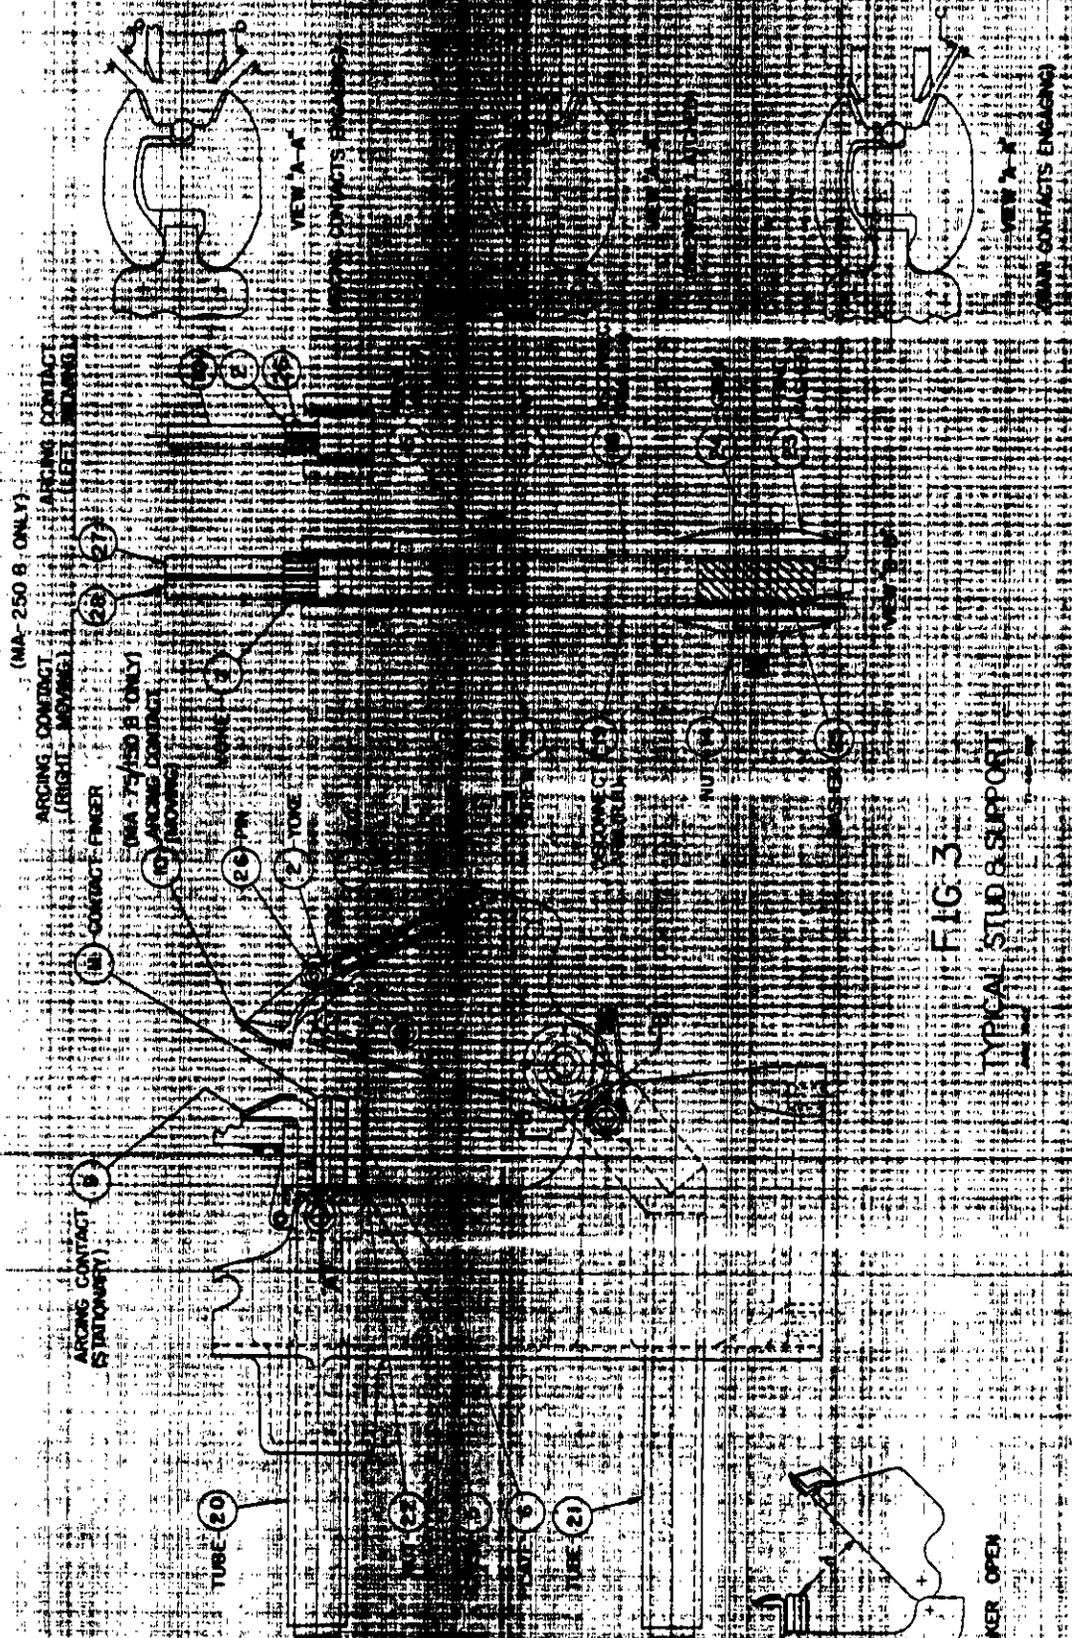

FIG. 3
4.13 CONTACT ALIGNMENT (Fig. 3)
On MA-75/150B Breakers: - If necessary, detach screw pin (1-46) and detach link (1-47) from disconnect arms (3-18) and (3-19). Detach arcing contact (3-10) from yoke (3-2) by removing pin (3-26). Move the disconnect toward the closed position until it just touches a main contact finger. (See Fig. 3, View A-1, main contacts opening). Dimension g should then be no greater than .020 inches.
4.14 CONTACT LEAD (Fig. 3)
If not already detached, remove pin (1-46) to detach link (1-47) from disconnect arms (3-18) and (3-19). Move the disconnect toward the closed position until the arcing contacts just touch (See Fig. 3, View A-A, arcing contacts engaged).
The shortest gap between the bottom of the fingers (3-11) and the disconnect arms (3-18) and (3-19) should be $1/16$ plus b , $1/32$. (Dimension b in View A-A of Fig. 3). Adjustment is made by loosening or tightening nut (3-1).
4.15 CONTACT STROKE (Fig. 3)
With breaker in closed position, dimension a (View A-A of Fig. 3) on the top pair of fingers should be $1/16$ plus $1/16$ inch. Adjustment is made with the breaker in the open position by increasing or decreasing the effective length of link (1-47) by means of nuts (1-18). Each phase is adjusted individually.
- 19- Remove disconnect arms as a unit by removing screw (3-24) and nut (3-14). Refer to Fig. 3. Carefully inspect all contact surfaces in hinge joint. Silver washer (3-25) and adjacent surfaces should be clean and free of roughness or galling. Lubricate silver washer and contact surfaces by rubbing in microfine dry graphite used sparingly. Reassemble disconnect arms. Tighten hinge joint per Section 4.12.